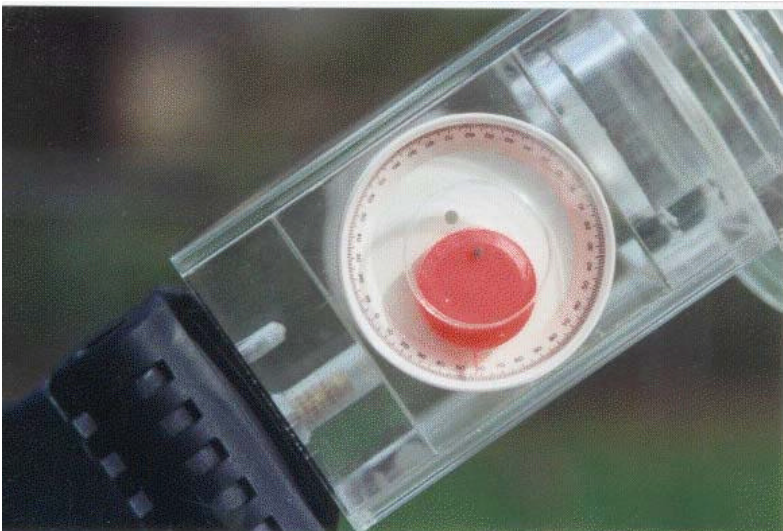

Fig. 10
- (11) Now, take latitude obtained in Step 2B, add .5 degrees to center upon spacecraft beam and subtract this from 90 degrees. Tilt TARGET: SAT™ back on tripod to read this position. Fig. 10 photo shows 57.5 degrees.